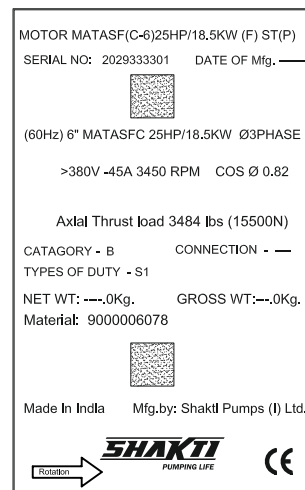

Figure 5-1 Name Plate
- ⇒ Determine the age of the motor by checking the type plate (see Figure 5-1).